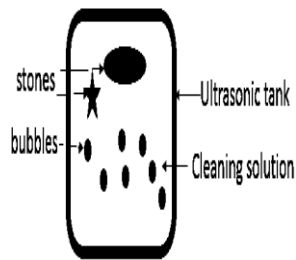

Figure 14
3) **Cleaning:** Cavitation effect: Formation and blasting of minute vacuum bubbles is known as cavitation which is shown in figure 14. When ultrasonic waves are passed through the ultrasonic tank, high pressure and thrust is generated on the substance to be cleaned which is dipped into the cleaning solution. Ultrasonic waves are used for cleaning of jewelry, watches, lenses, electronic components and surgical instruments etc.